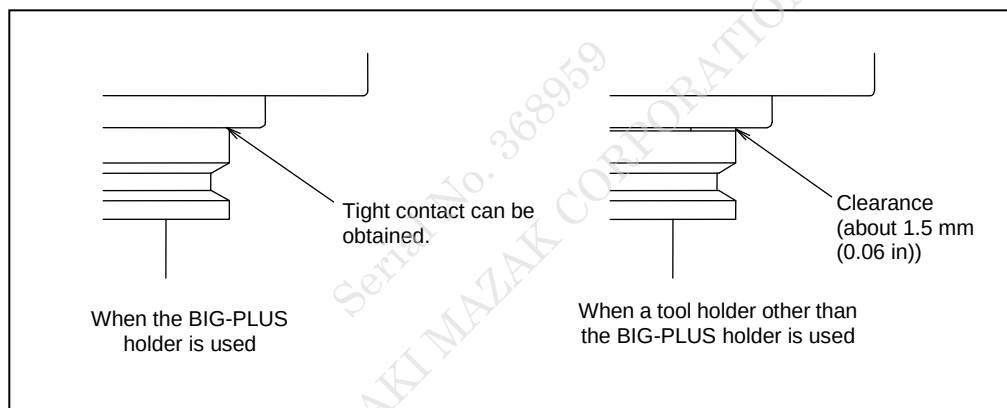

Fig. 2-1 Clearance occurring when tool holders are mounted
- As for machines the spindle of which has an air blow hole at the edge, if a tool holder other than the BIG-PLUS holder is used, coolant may get into the spindle through the air blow hole and from the clearance shown in Fig. 2-1 during machining. To avoid this, be sure to use the BIG-PLUS holder.